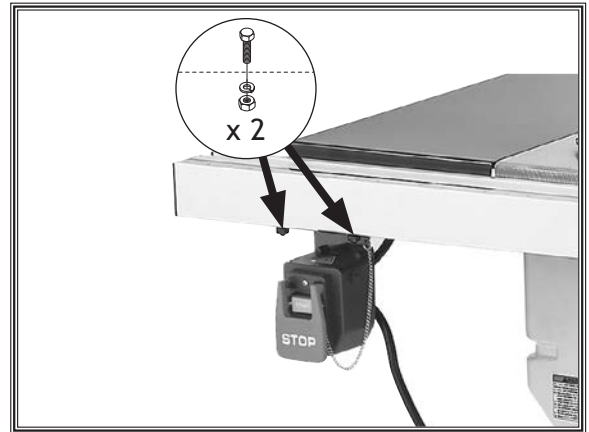

Figure 24. Switch installed.
- 14. Install switch on hex bolts from **Step 10** using (2) M8-1.25 hex nuts and (2) 8mm lock washers (see **Figure 24**).